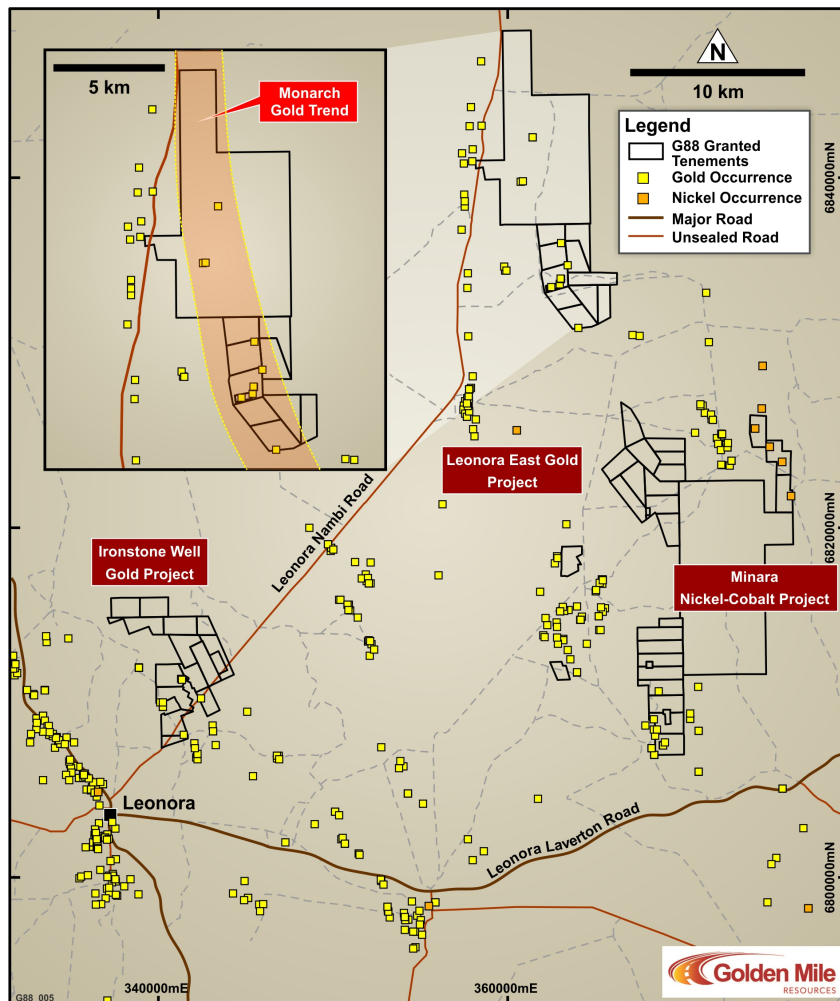

Figure 1: Location diagram of the Monarch Gold Trend on the Company’s Leonora East Project
Golden Mile Resources (ASX: G88, “Golden Mile” or “the Company”) is pleased to advise that it has completed an aircore (AC) drilling program on gold exploration targets on the prospective Monarch Gold Trend (“MGT”) on the Leonora East Project in the North-Eastern Goldfields of WA (Figure 1).